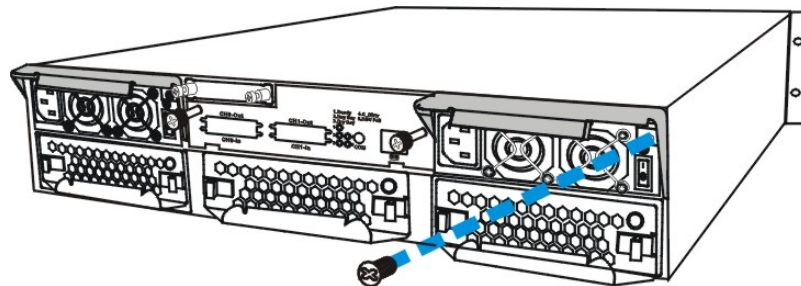

Figure 5- 7: Removing the PSU Retention Screw
- Step 3. **Remove the retention screw:** After the power cable has been removed from the power connector, remove the retention screw at the upper right side of the PSU rear-end panel. (See **Figure 5- 7**) The screw is located below the extraction lever, beside the LED indicator, and can be hidden from sight.
- Step 4. **Pull the extraction handle downward:** Push the extraction lever at the back of the PSU module downwards. This will dislodge the PSU module from the subsystem. Once dislodged, gently pull the PSU module out of the subsystem. (See **Figure 5- 8**).